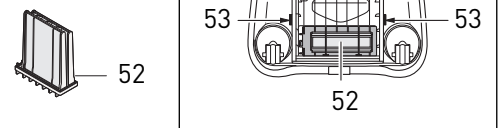

Figure 18
3. Micro-hygiene filter not properly inserted.	3. Remove the filter bag cover (26) and make sure the micro-hygiene filter housing is seated firmly in place (see pg. 11, figure 18).